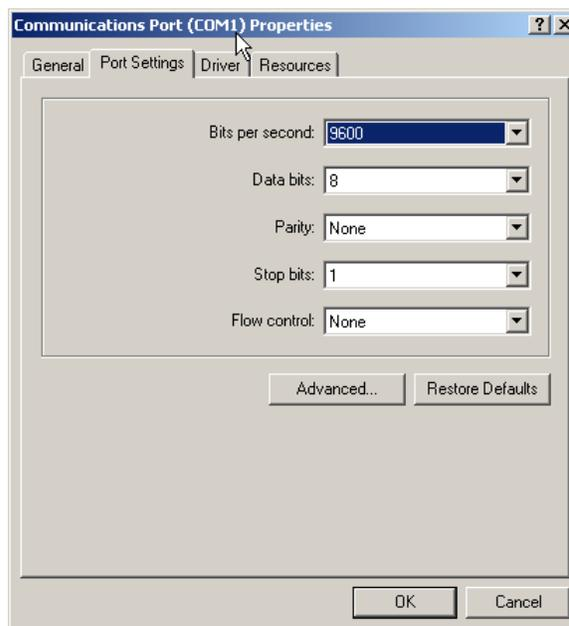

Figure C-5: Communications Port Properties dialog box
- Press the "+" next to Ports and double click the Communications Port to open the Communications Port Properties dialog box (Figure C-5).